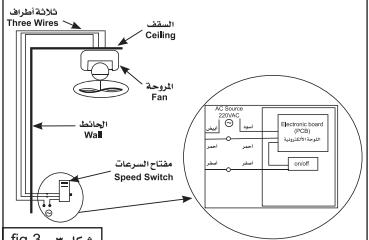

fig.3 مکل ۳
- Be sure that the connection according to next steps for proper operation (see fig.3).